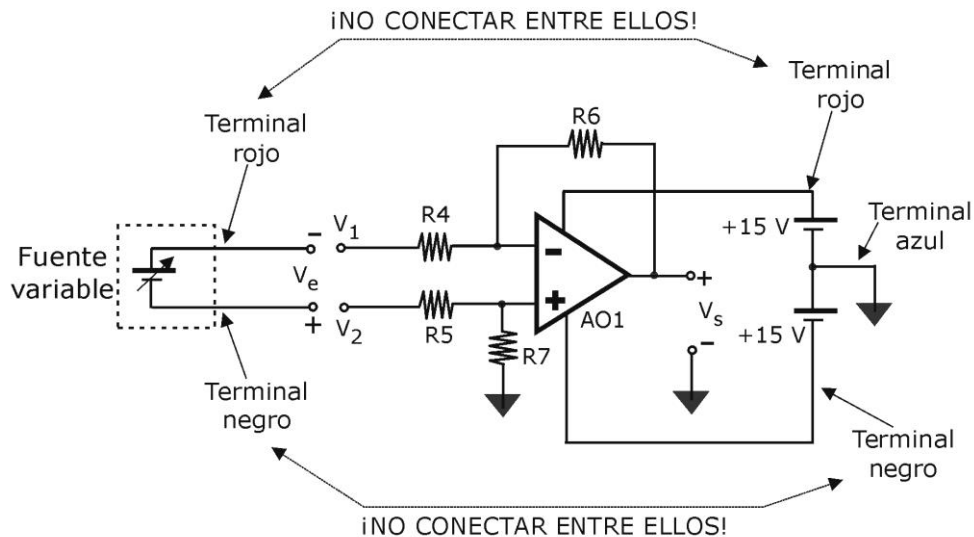

Figure 4. Connections scheme to supply the circuit in Figure 1.
8. If everything is correct, proceed to experimentally obtain the value of the voltage gain (G_u) and the saturation voltages ($\pm V_{sat}$). To do this, use DC signals obtained from the power supply through the adjustable voltage output. This will be connected to the input of the amplifier (V_e) as shown in Figure 4. In order to have a differential input voltage (that is, not referred to the reference point of the circuit), the terminal must NOT be connected negative terminal of the variable power supply (black terminal) with the reference point of the circuit (blue terminal of the ± 15 V supply), but to the negative terminal of the input voltage (V_1).